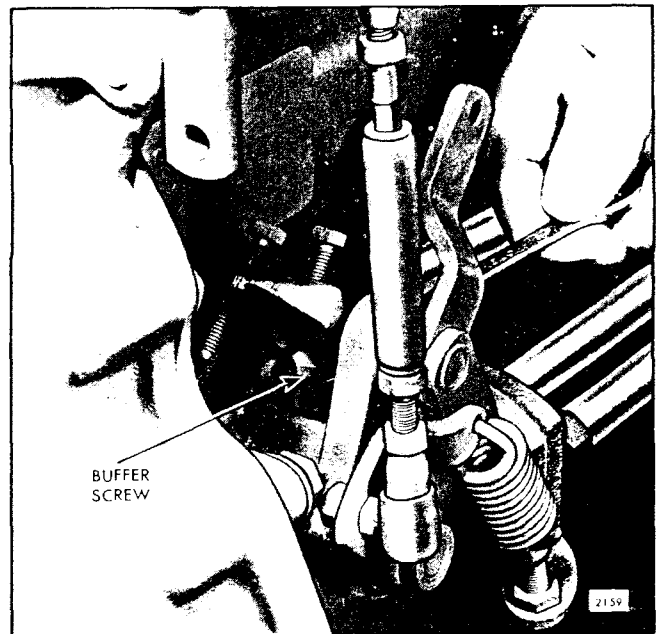

Fig. 7 - Adjusting Buffer Screw
1. Loosen the buffer screw lock nut and, with the engine operating at idle speed, turn the buffer screw in (Fig. 7) until engine roll is eliminated.